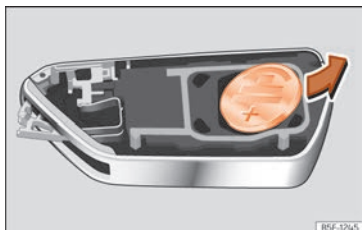

Fig. 84 Vehicle key: removing the battery.
- Extract the battery from the compartment using a suitable thin object »» Fig. 84.
- Insert the new battery and press it into the battery compartment »» ①.